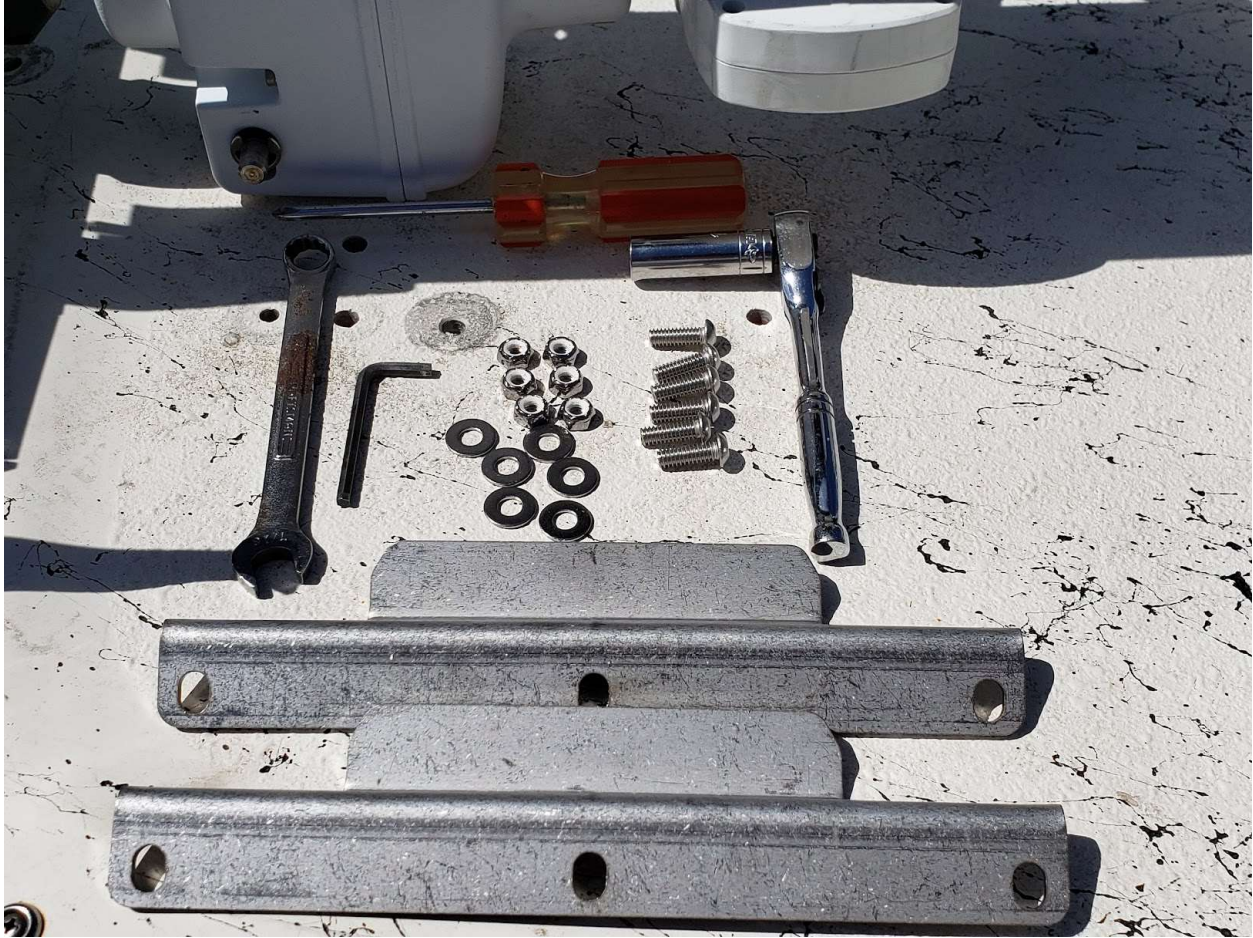

Figure 1.
- Figure 1 shows the carriage brackets and hardware that will be used to attach the brackets to your motor along with some common tools. Mandatory tools that you will need are: